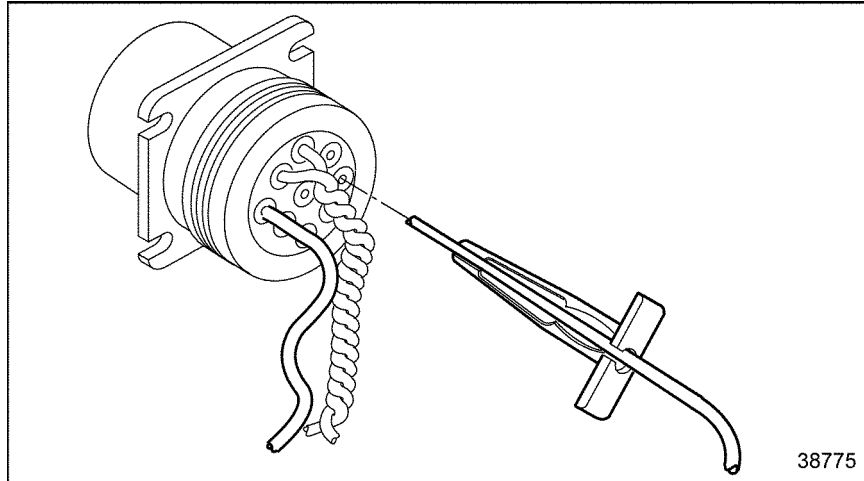

Figure 3-15 Removal Tool Insertion
2. Slide the tool along the cable into the insert cavity until it engages and resistance is felt. Do not twist or insert tool at an angle. See Figure 3-15.